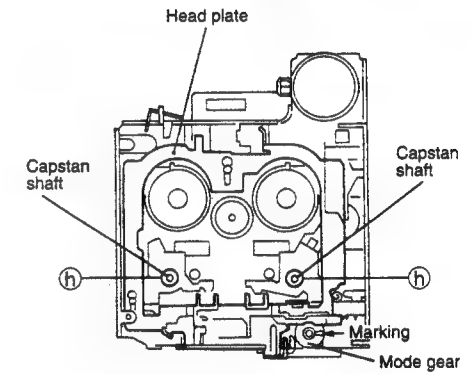

Fig. 19
8. Pull out the mode gear. (Fig. 19)
7. Remove E washers ① at the two positions which secure the capstan shaft away from the surface. (Fig. 19)